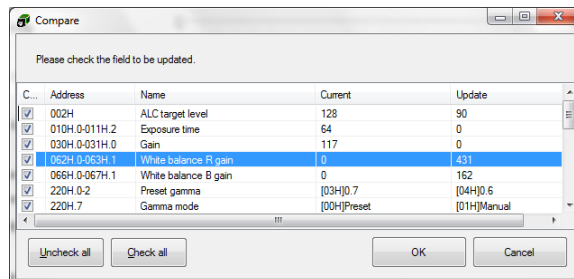

Figure 11
2. After manipulating the settings, select the “DSP->EEPROM” button in the lower left corner of the screen to save the DSP settings of the current color mode to the EEPROM. The “Compare” dialog box below appears (Figure 11). This shows all parameters which have been changed from the EEPROM data. Remove check mark if you do not want to update then click “OK”. By doing this you can save all parameters with check mark.
3. Select the “uCOM->EEPROM” button in lower left corner of the screen to save the microprocessor settings to the EEPROM. As described previously, the “Compare” dialog box below appears (Figure 11). This shows all parameters which have been changed from the EEPROM data. Remove check mark if you do not want to update then click “OK”. By doing this you can save all parameters with check mark.